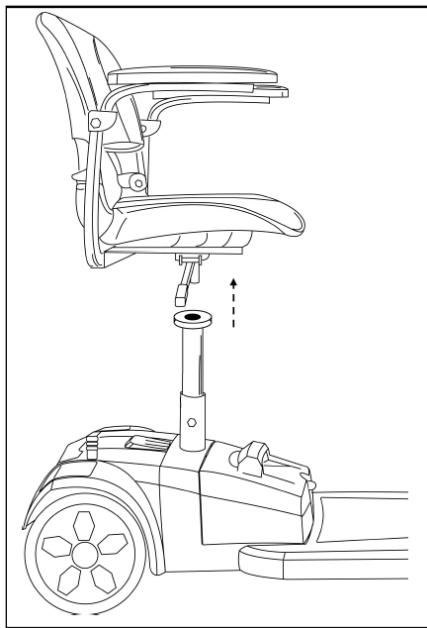

Figure 15: Removing the Seat
3. Grip the seat on opposite sides and, with a firm grip; pull the seat straight up. *See Figure 15 on Page 28.*